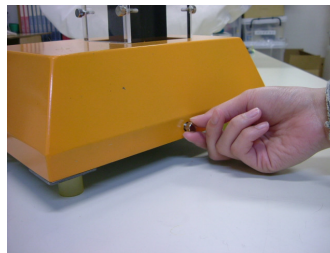
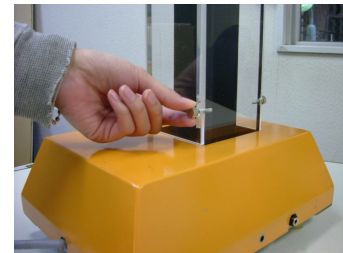

Fig. 4 Removing Screws from Lower Parts of the Side Faces of the Main Unit
Fig. 5 Removing Screws from the Side Faces of the Acrylic Column
- 1) First, unscrew the two screws installed in the side face of the Raijin main unit's metal cover, and then unscrew the four screws attached to the lower parts of the clear, acrylic column (belt cover). Save the removed screws. Carry out work in the order from Fig. 4 to Fig. 5.